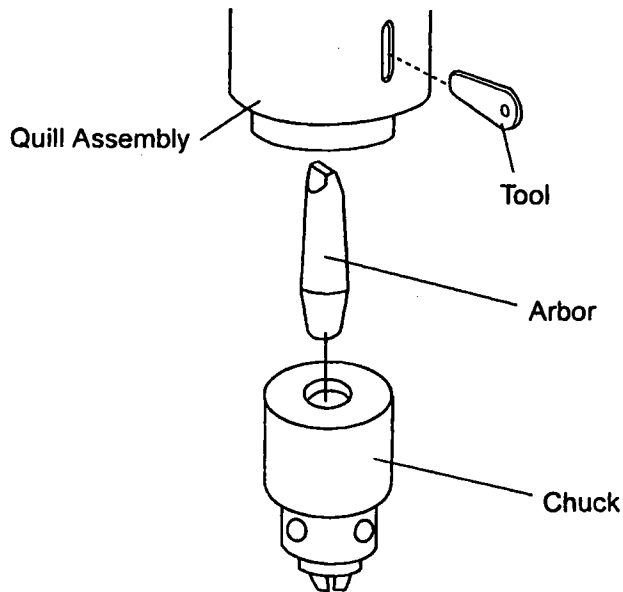

FIGURE 6
1. Slide arbor into quill assembly, flat end goes in first as shown in Figure 6.
3. Insert tool, shown in Figure 6, into quill assembly and all the way through quill assembly. You may have to rotate quill to be able to get tool all the way through.